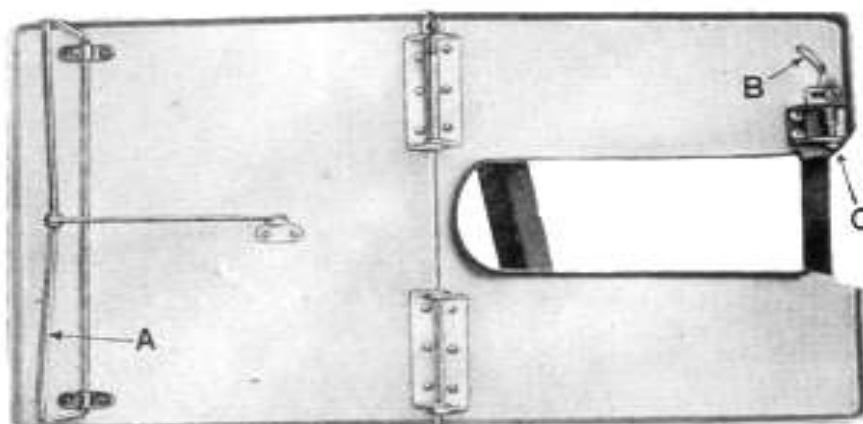

Fig. 20 B
thumb, press the Lever (B) so that the pin (C) gets into the seat on the free arm. See Fig. 20 A.